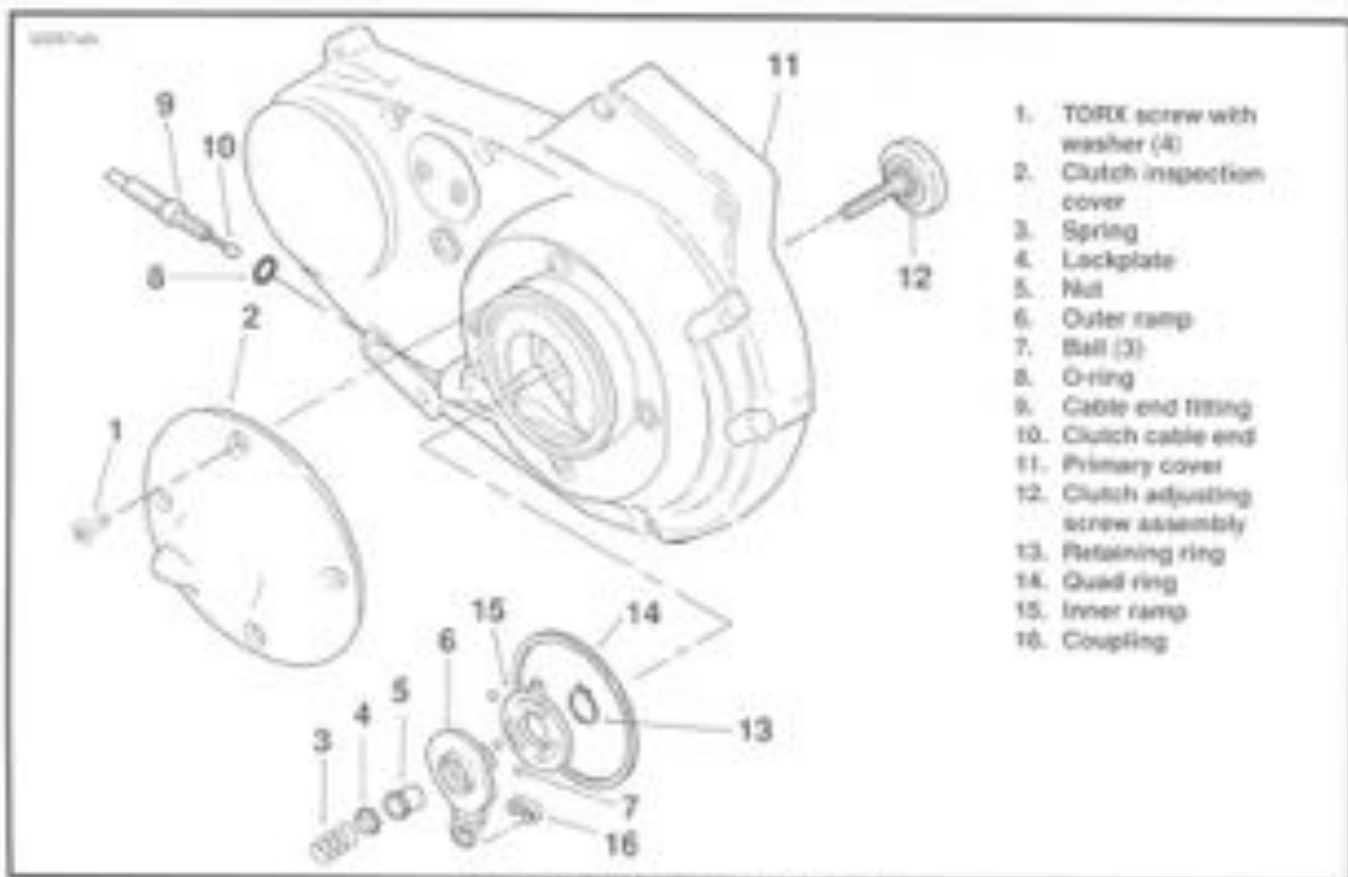

Figure 2-85. Clutch Release Mechanism
Clutch Cable – Lower (Figure 2-85)
- See Figure 2-85. Install O-ring (8) over cable end fitting (9) of clutch cable lower section. Turn fitting clockwise to install into primary cover (11). Tighten fitting to 3-5 ft-lbs (4-7 Nm) torque.
- Fit coupling (16) over cable end with the rounded side inboard, the ramp connector button outboard. With retaining ring side of ramp assembly facing inward, place hook of ramp around coupling button and rotate assembly counter-clockwise until tang on inner ramp (15) fits in slot of primary cover (11).
- Thread nut (1) on adjusting screw (12) until slot of screw is accessible with a screwdriver. Fit nut hex into recess of outer ramp (8) and turn adjusting screw counter-clockwise.